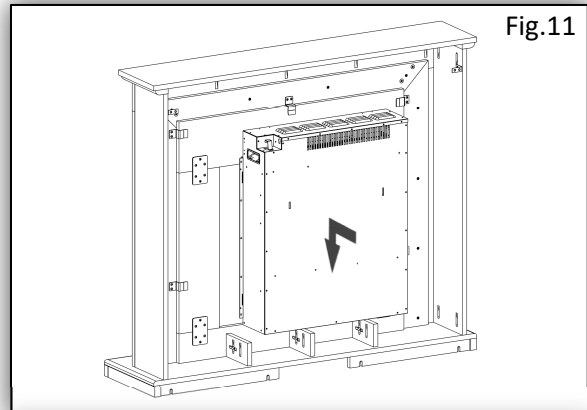

Fig.11
12. With the help of a second person and using the handles fitted to the rear or side of the Fire (J) . Lift the Fire (J) into the rear of the Surround (A), positioning it through the opening in the Back Panel (H) and resting the Fire (J) on the fire supports stands or hearth dependent on the model purchased. Fig.11.